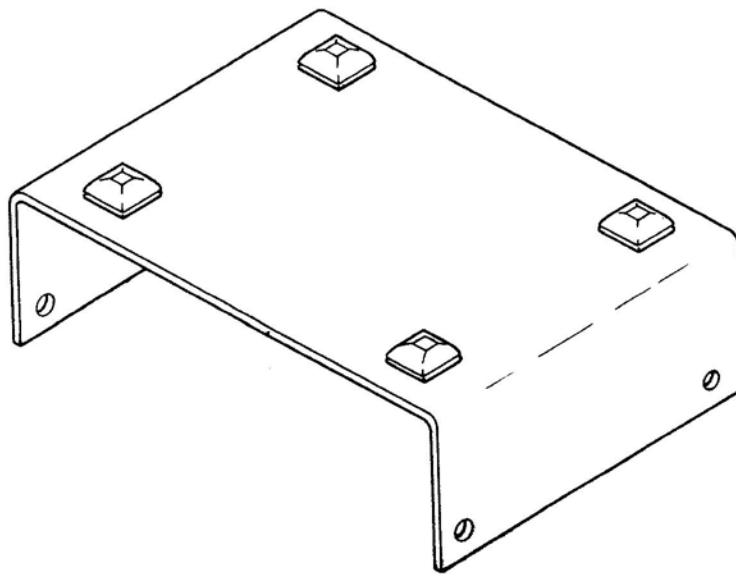

Fig. 12. Mounting the feet on one of the cabinet halves.
(1) Before installing the power supply in the cabinet, locate the four plastic mounting feet found in Bag "3B-320." Remove the backing from the feet and mount them on one of the cabinet halves as shown in Fig. 12